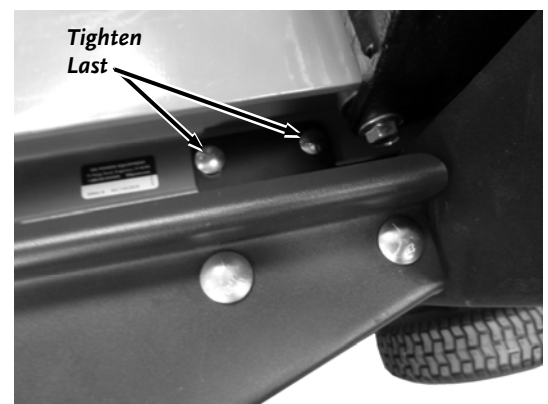

Figure 10
- Last, tighten the four Bolts and Locknuts that secure the Cradle Extension Mounts to the Beam (**Figure 10**).